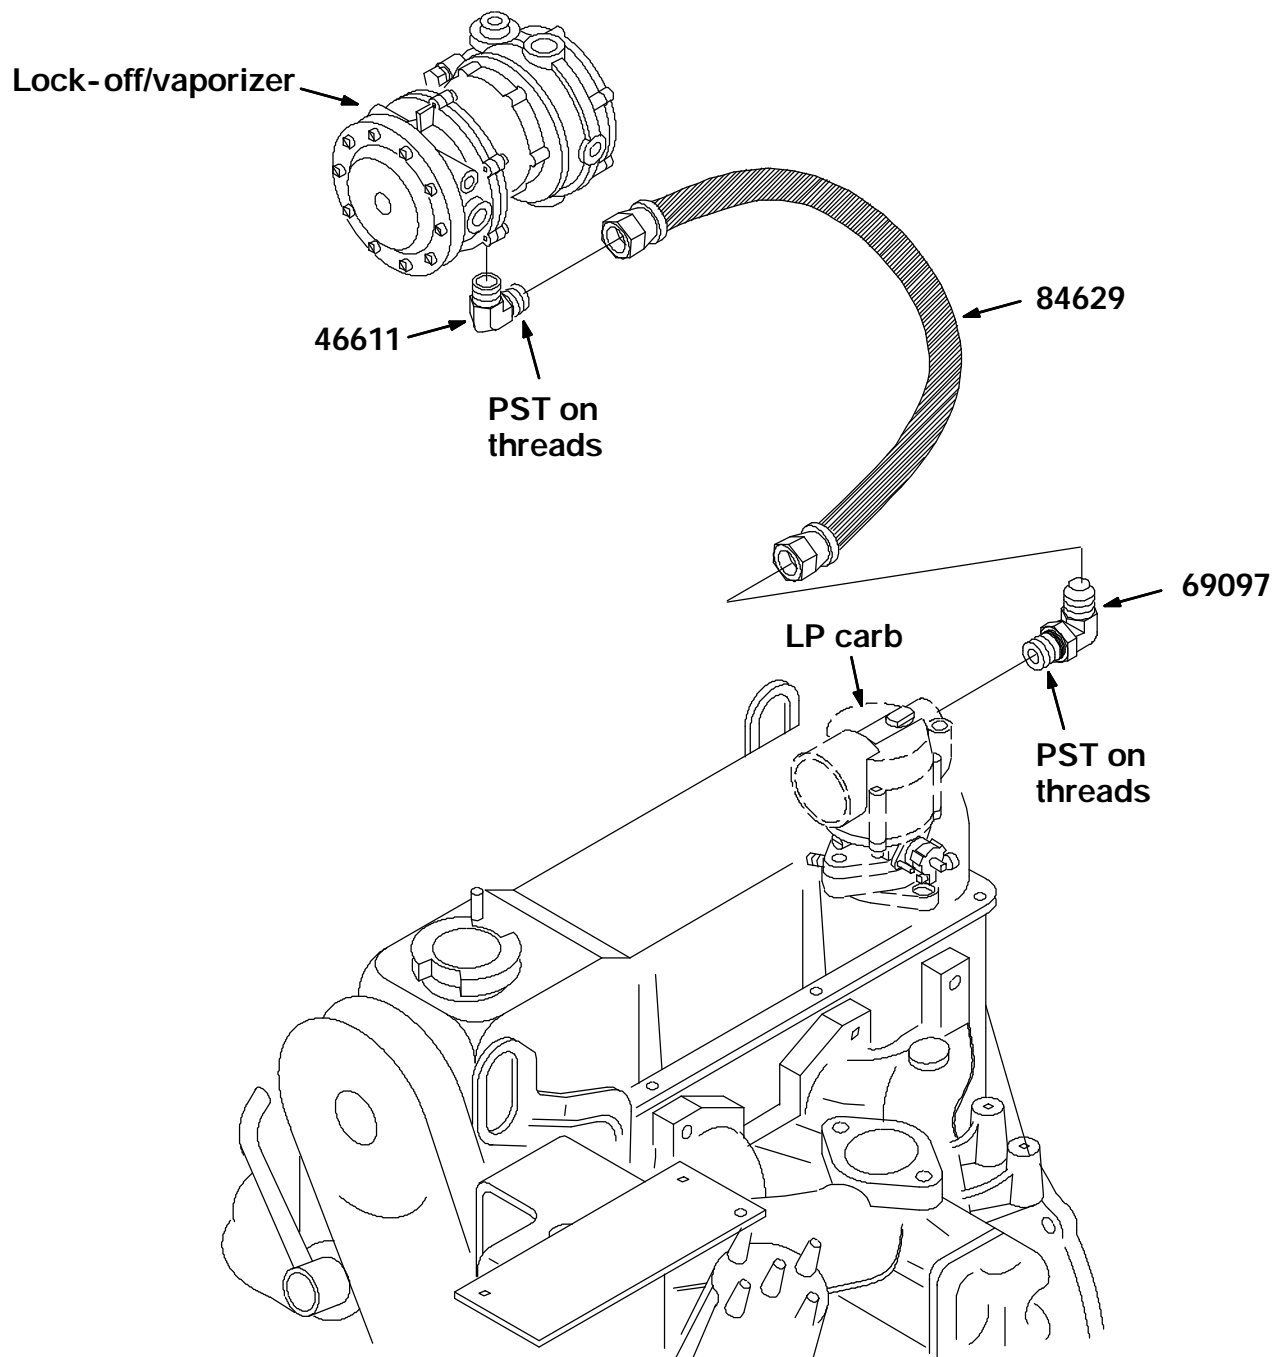

FIG. 1 - Hose And Fitting Installation
(Refer to FIG. 1)
3. Remove and discard the LP hose running between the engine carburetor and the LP lock-off/vaporizer. (Refer to FIG. 1)
4. Remove and discard the fitting from the LP carburetor. (Refer to FIG. 1)
5. Remove and discard the fitting from the bottom of the LP lock-off/vaporizer. (Refer to FIG. 1)
1. Place a small amount of PST sealant (4) on the **pipe** threads of the two fittings provided in this kit. (Refer to FIG. 1)
2. Install the smaller fitting (2) in the engine carburetor. Orientate the fitting in the direction of the LP lock-off/vaporizer. (Refer to FIG. 1)
3. Install the larger fitting (3) in the bottom of the LP lock-off/vaporizer. Orientate the fitting in the direction of the engine carburetor. (Refer to FIG. 1)
4. Install the new LP hose (1) on the new fittings. Open the valve on the LP tank and check the fittings and hose for any leaks. (Refer to FIG. 1)